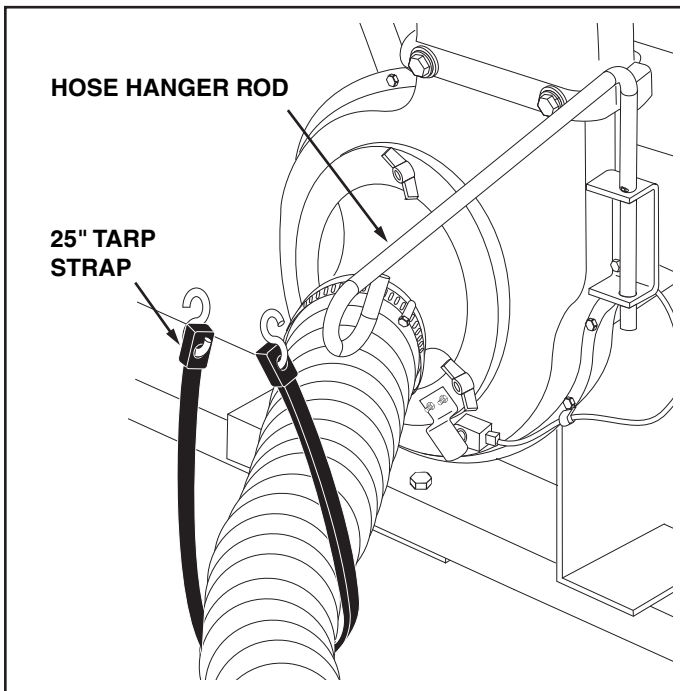

FIGURE 17
28. Loop the 25" tarp strap under the hose. Fasten the hooks to the hose hanger rod. See figure 17.